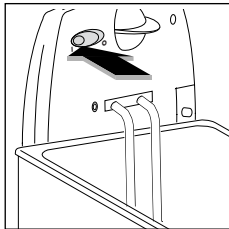

fig. 6
- Move the switch to position I (see Fig. 6). The light on the switch will be lit.